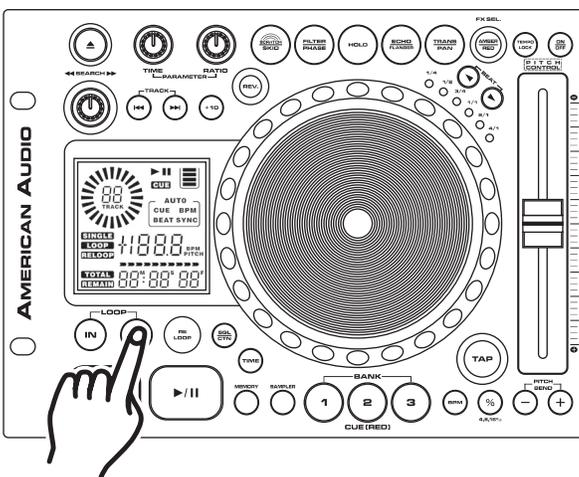

Figure 20
- 3) Press the *OUT BUTTON* (24) to set the ending point for your SEAMLESS LOOP (Figure 20). The *IN BUTTON* (25) and *OUT BUTTON* (24) L.E.D.s will immediately begin to flash rapidly, indicating the SEAMLESS LOOP mode has been activated.